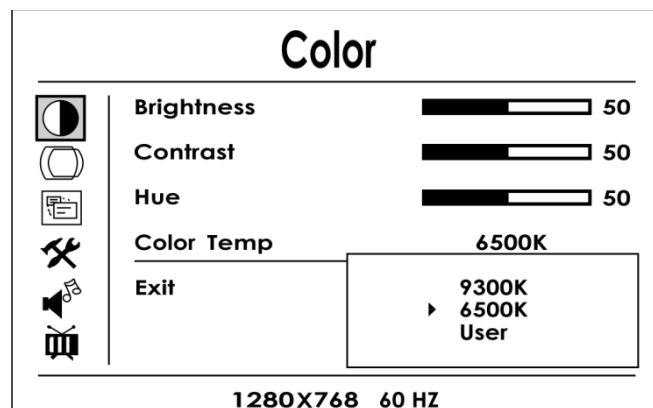

Fig. 06
Once you have chosen which of the parameters you want to edit, press the **menu (06)** button again to see a handful of options. To choose one of them, press the **menu (06)** button. See Fig. 06.